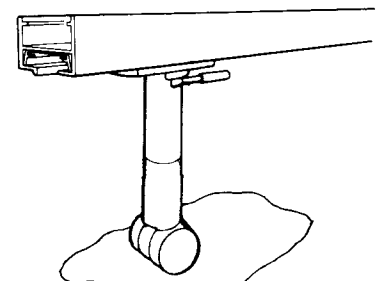

FIG. 2
3. To attach FITTING, insert into LYESPAN TRACK. Turn LEVER 90° to make mechanical and electrical connection. See Fig. 2.